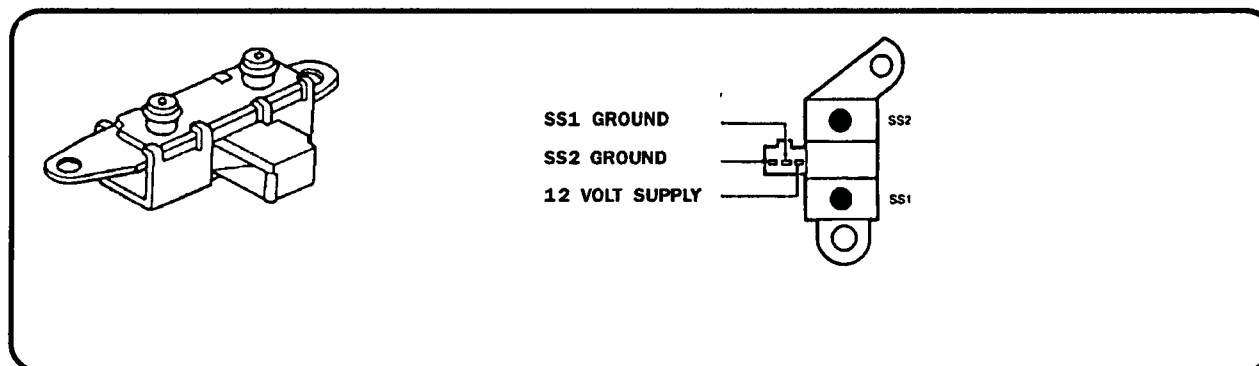

Figure 47
**On/Off Solenoids** - The two shift solenoids are simple on/off types used to either pressurize or exhaust fluid passages to the 1-2, 2-3 and 3-4 shift valves. They do not regulate the fluid that passes through, they can only turn the flow on or off. These two solenoids, called shift solenoid 1 (SS1) and shift solenoid 2 (SS2), are mounted in a single housing. These two solenoids are normally open to exhaust. When energized, they close to hold pressure. Improper gear selection and shift schedule may result with solenoid failure. Depending on which solenoid fails and what range the manual lever is in, improper shift scheduling may vary (see figure 47). Refer to page 53 for SS checks.